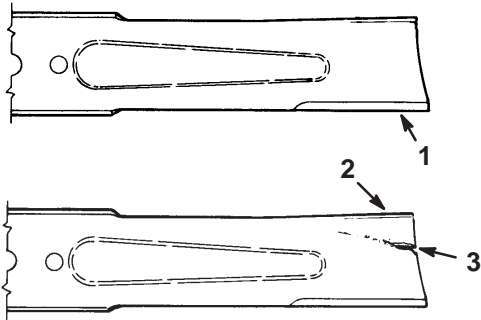

Figure 25
3. Inspect the cutting edges (Fig. 25). If the edges are not sharp or have nicks, remove the blade(s) and sharpen them; refer to Sharpening the Blade(s), page 16.
4. Inspect the blade(s), especially the curved area (Fig. 25). If you notice any damage, wear, or a slot forming in this area (Fig. 25), immediately install a new blade.